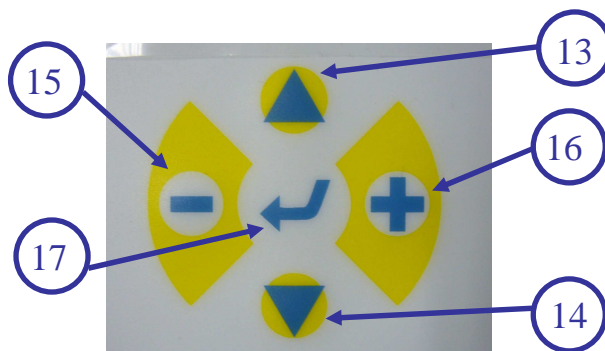

Figure III-5b: Remote Control Box
Press **ENTER** ((17) of Fig III-5b) to display the main menu:
- Q-switch mode auto, burst or scan: select the mode with the buttons (15) & (16) of Fig III-5b and press ENTER (17) to access the mode modification. When the auto mode is validated, the Q-switch operates continually, and the user can choose the repetition rate F, or F/n (n is an integer, F is the repetition rate). The burst mode is used when the user would like to fire a successive given number of laser shot. The scan mode is used when the user would like to repeat many times the burst mode. If the burst or the scan mode is activated, another menu is displayed and you can modify the operating